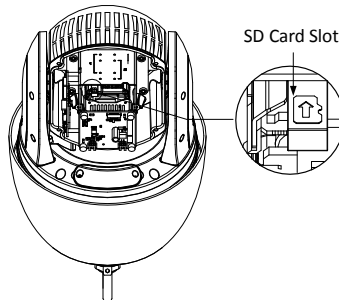

Figure 2-32 Memory Card Slot
- Refer to **Section 2.1.1 Wall Mounting** for wall mounting steps for DE6xxxI series (IR) speed dome.
- Refer to Figure 2-32 for memory card slot of DE6xxxI (IR) series speed dome.